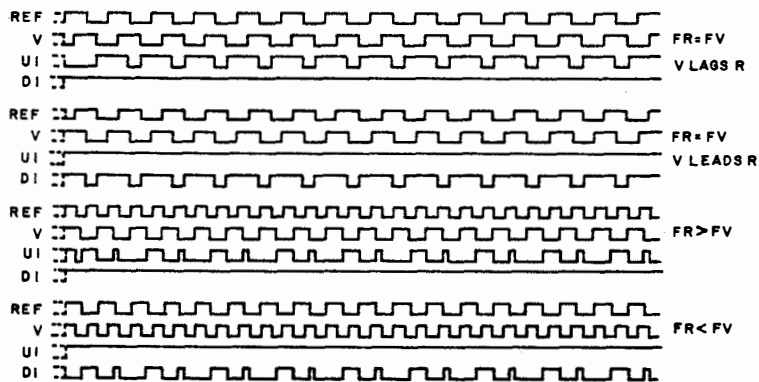

Figure 5-21. Phase Detector Timing Diagram
(1) VCO band select circuitry. Table 5-15 checks for proper operation of U13, diodes CR8 through CR10, and Q1 through Q3, while dialing different frequencies on the front panel.
(2) Divider section. With a tuned frequency of 00.00000 MHz, or an input at J1 of the 1st and 3rd LO of 171.64 MHz, the following frequencies in table 5-16 should be found at the corresponding IC pins using a digital frequency counter.
(3) Phase detector U5. Check for a 40 kHz signal at input pin 3 of U5. If a signal is not present, troubleshoot the Time Base circuits. Check for a 40 kHz signal at pin 1 of U5. If it is not present, troubleshoot the 1st LO counter circuits. Refer to paragraph (5) and figure 5-21 for an explanation of the function of the phase detector.
(4) 1st LO VCO. The 1st LO VCO is located on the 1st and 3rd LO Synthesizer PC board. It is recommended that the circuit description of the VCO be read before troubleshooting (paragraph 3-154) The frequency of the oscillator, Q1, is controlled by the band select code and the tuning voltage. The correct VCO output frequency can be found by adding 42.91 MHz to the tuned frequency in table 5-16 and multiplying the result by 4.
(5) Phase detector operation. The phase detector normally receives a fixed reference frequency at one input (R) and a variable frequency at the input (V) from the divider section. The output responds only to transitions from the two inputs and has four output states as shown in figure 5-21. If the frequency and phase match exactly, outputs U and D remains high. If the variable input leads in phase with respect to the reference input, U remains high and D goes low. If the variable input lags in phase with respect to the reference input, D remains high and U goes low. When inputs V and R are separated by a frequency difference, the output at pins U or D varies high and low at a rate proportional to the difference frequency of the two inputs. Under lock conditions, when the input of both V and R are identical in phase and frequency, the output pulses from U and D will be extremely narrow and appear on an oscilloscope as spikes. For a large difference between the two input frequencies, as when a new LO frequency is established, the outputs respond as described above with wide pulses appearing on the proper outputs.
(d) Observe the input (pins 1 and 3) and output (pins 2 and 13) voltages of U22 and compare them to figure 5-21. If a difference exists, replace U22. A normal value for the output (pin 8) is 2.0 to 3.0 Vdc.
(d) Phase detector U12. Check for 10 kHz signal at pin 1 of U12. If incorrect or no signal, troubleshoot the Time Base circuits. Compare inputs (pins 1 and 3) and outputs (pins 2 and 13) to figure 5-21 of the 1st LO Troubleshooting Test.